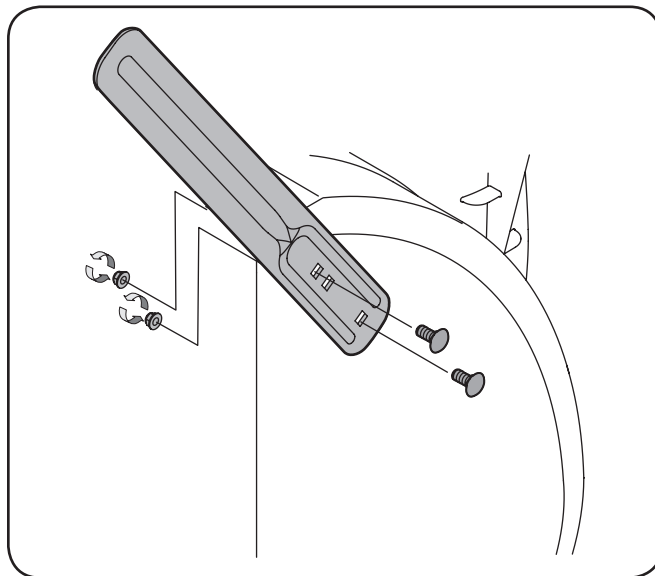

Figure 3-28
2. Turn the drift cutters around and position them as shown in Figure 3-28 to the outside of the auger housing.